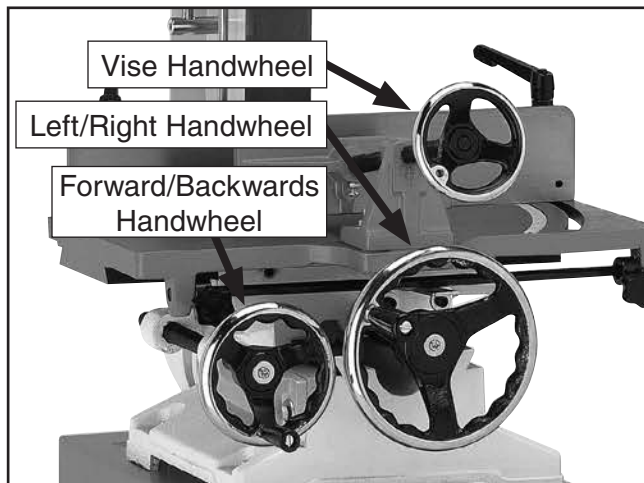

Figure 9. Handwheels.
1. Screw the handle with the $\frac{3}{8}$ " thread into the left/right handwheel shown in **Figure 9**, and tighten the locknut against the handwheel.
2. Screw the remaining handles into the smaller handwheels (**Figure 9**) and tighten the locknuts against the handwheels.